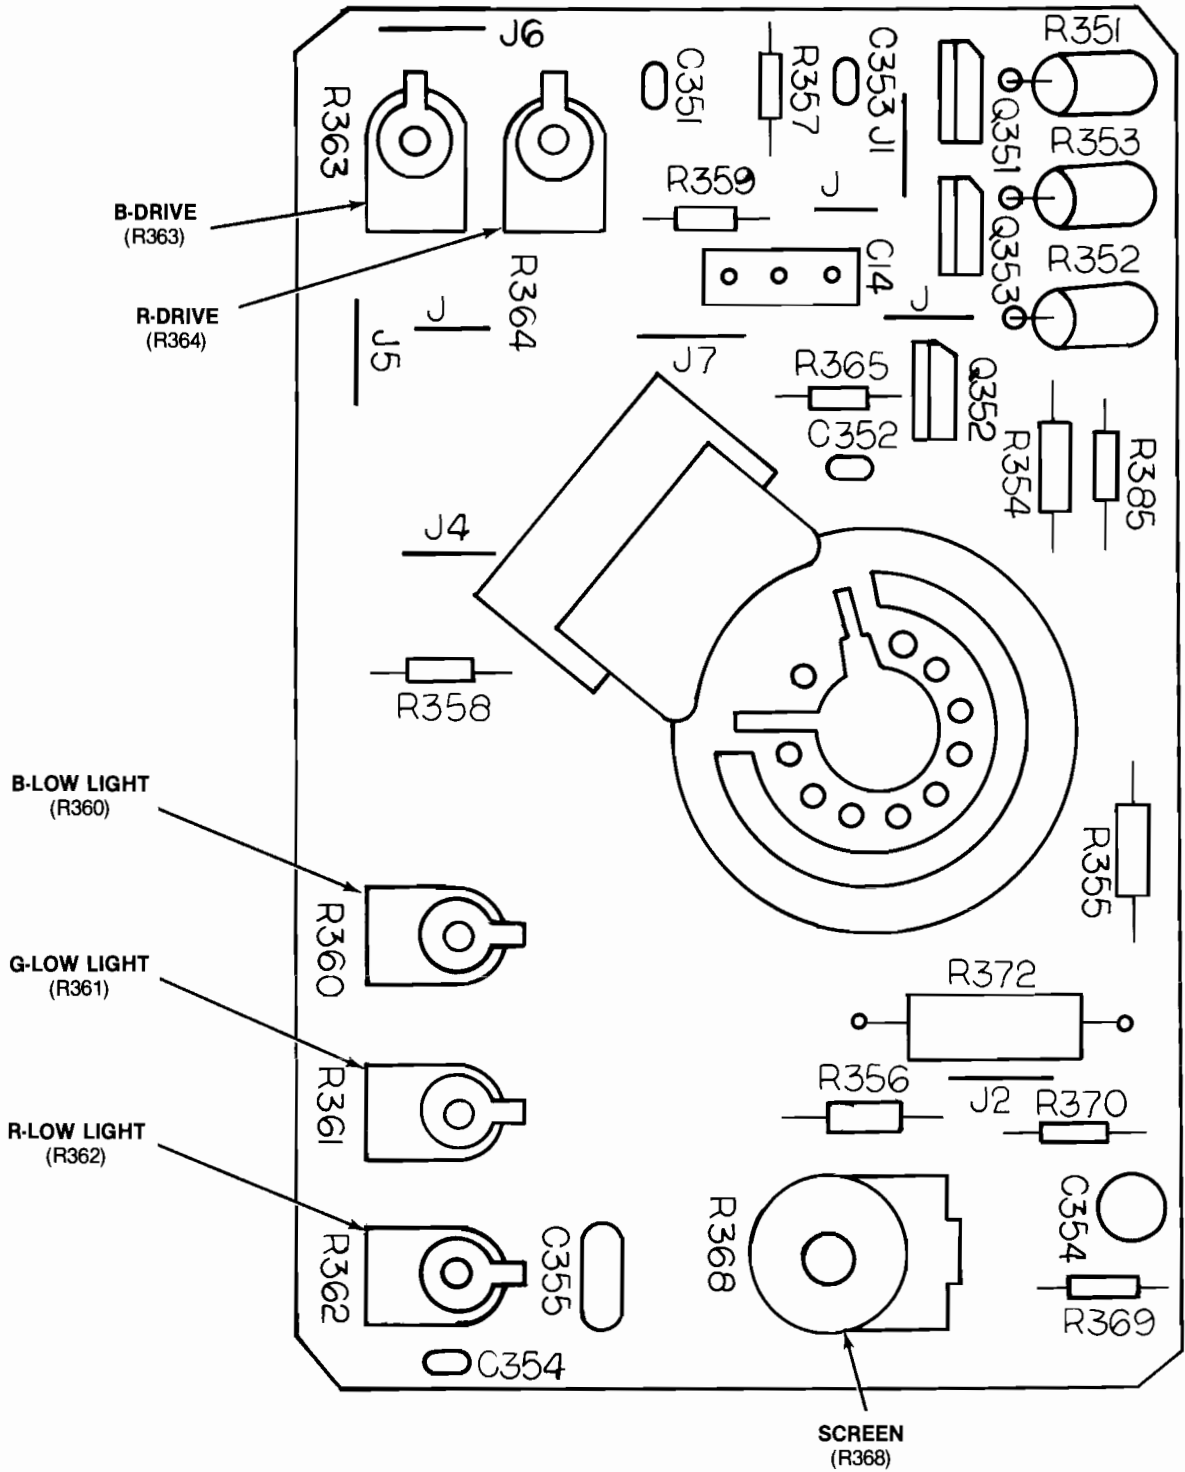

Figure 19 Locations of Tracking Adjustments on the CRT PCB
6. Set the game to display only the green crosshatch diagnostic pattern. If the game does not produce a green-only crosshatch pattern, turn off R DRIVE R364 and B-DRIVE R363 of the display CRT PCB. Refer to Figure 19 for the locations of the Drive controls.
3. Set R-DRIVE R364 and B-DRIVE R363 to their mechanical centers. Figure 19 shows the location of the tracking adjustments on the CRT PCB.